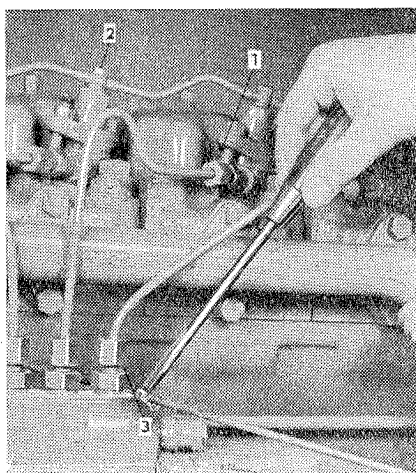

Fig. 21
- (1) Set the engine running at minimum speed.
- (2) Loosen the cap nut (Fig. 21/3); if the engine revolutions diminish — the injector is good, if the engine revolutions do not change, the injector is defective and it is necessary to clean the holes of the nozzle, or to replace the injector with a new one.